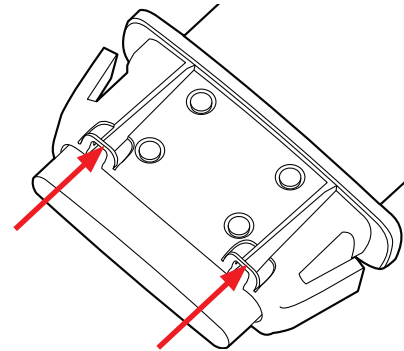

Figure 2—Fold down the two tabs on both strap clips
2. When you have selected a strap of the correct length, fold down the two tabs on the ends of each clip. **(Figure 2)**